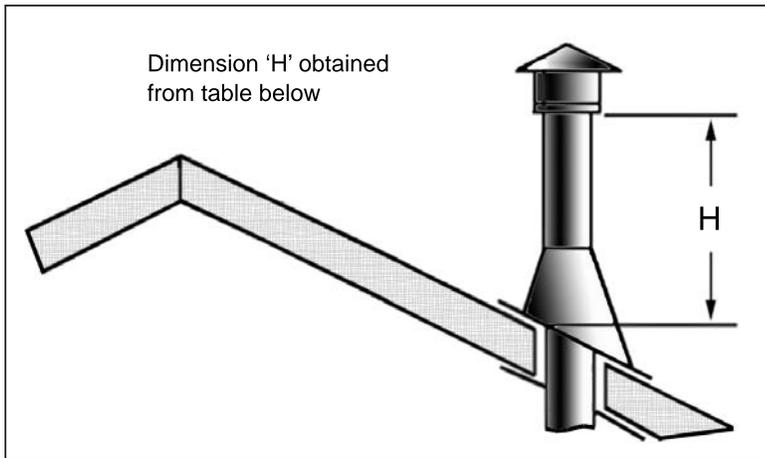

Figure 74: Height of Vertical Termination;
- Step 4.** Measure roof pitch. Select the proper flashing and storm collar and determine the height above the roof (see Figure 74). A non-corrosive pipe material must be used for all exterior pipe lengths. Seal nail heads with silicone.